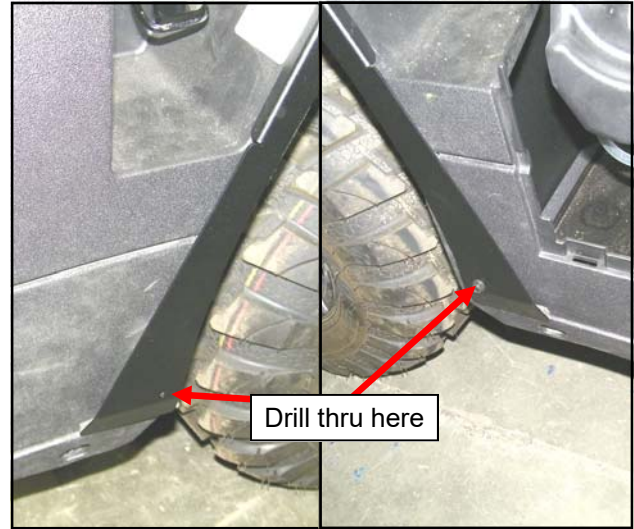

Fig. 13.1 (C-pillar lower bolt)
13.1 Ensure the cargo bed is still in the raised and locked position, and remove the battery cover at the passenger's side seat base. Per figure 13.1, drill a 9/32" hole through the lower hole in the C-pillar and through the plastic panel underneath. Secure the C-pillar to the plastic panel with a 1/4-20 bolt outside, and steel washer and nut inside the plastic panel and tighten snug.